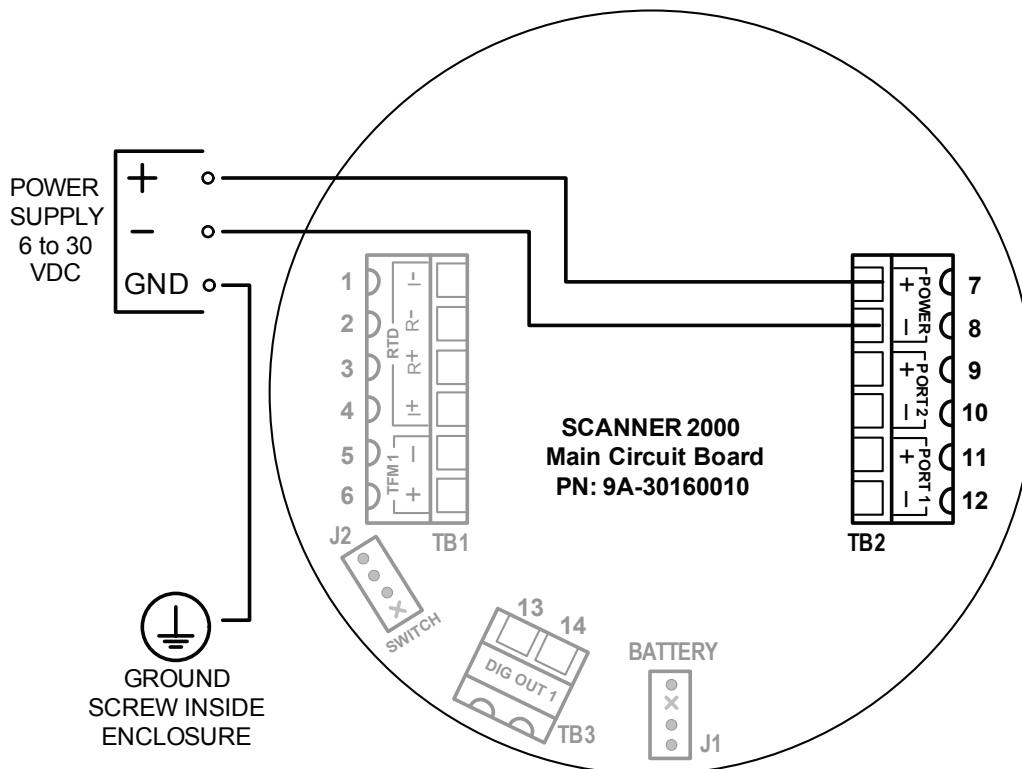

Figure 3.3—External power supply wiring
5. Connect wiring for external power, if appropriate. See Grounding Procedures, page 60, and see Figure 3.3, page 62 for a wiring diagram.
The Scanner 2000 can be connected to a remote power supply by a two-conductor cable (Figure 3.3). The power supply and cable must be capable of supplying 6 to 30 VDC @ 50 mA.